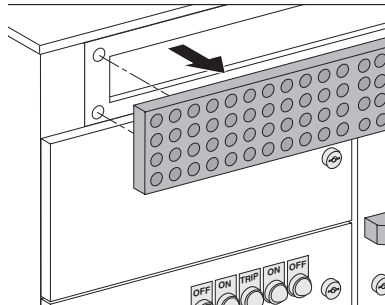

Fig. 9b
- Now pull it forward to free it completely (see Fig. 9b).